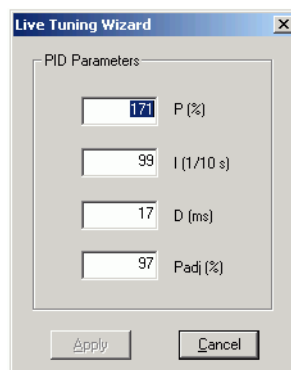

Figure 110 Live Tuning Wizard
1. Click **Live Tuning** and Figure 110 appears.